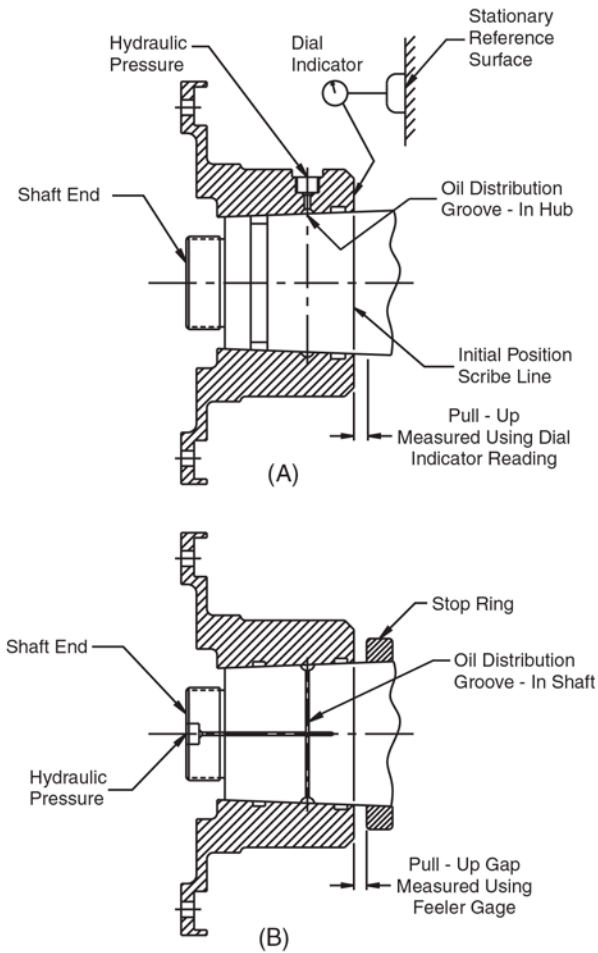

Figure 1
- For an approximate reference point, blue the end of the shaft and scribe a line at the initial position as shown in Figure 1(A).
- 3.2.1 Dial Indicator Method – Locate a stable, flat stationary surface in proximity to the hub end upon which a magnetic base dial indicator can be mounted (reference Figure 1(A)). Set up the indicator to measure axial movement of the hub which will provide a direct and accurate reading of the desired pull-up.
- 3.2.2 Stop Ring Method – In this method a gap, corresponding to pull-up, is established between the end of the hub and a stop ring mounted on the shaft (reference Figure 1(B)). In this instance, feeler gages are used to accurately establish the pull-up distance. The stop ring or split collar (whichever may be used) should never be relied upon to act as a positive stop because mounting tool forces may exceed the resistive force of the ring. Therefore, the stop ring should only be looked upon and used as a gauging fixture. Note: It is the company's recommendation that both of the above methods should be used when setting pull-up, if possible (sections 3.2.1 and 3.2.2).
Note: Location of hub dilation pressure inlet, oil distribution groove and o-ring arrangement varies as shown in Figure 1.